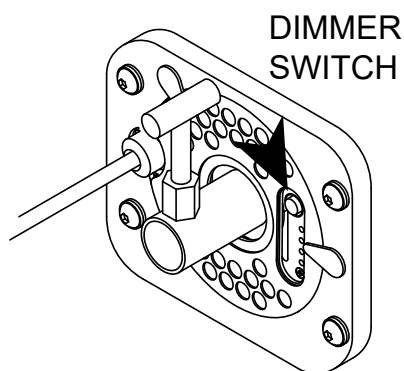

Figure 26. Dimmer Switch
2. The lamps light up at 800W, initially. Press the dimmer switch (Figure 26) on the lamp to change the brightness. Each press of the switch changes the lamp brightness in the following sequence: